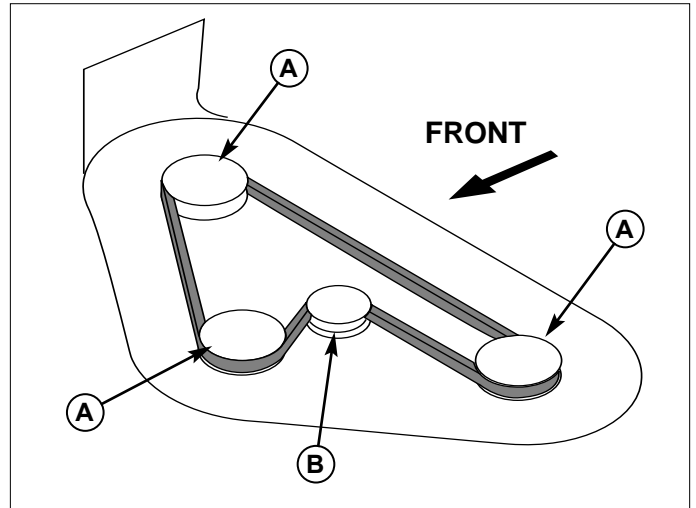

Figure 44. Mower Deck Drive Belt Routing
6. Install a new belt as shown in Figure 44. Make sure that V-side of belt runs in arbor pulley (A) grooves and flat side of belt runs against idler pulley (B).